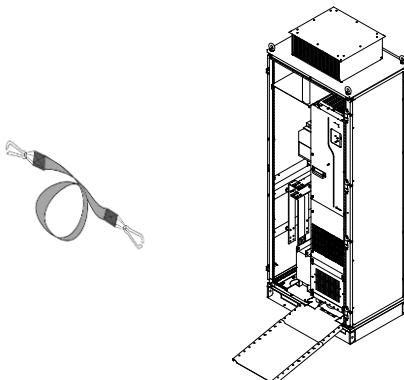

Figure 4-17 VFD already in the cabinet
4	Arrange two people to align the VFD casters with the mounting rail and push the VFD to the cabinet. (See Figure 4-15 and Figure 4-16. Use the auxiliary rope for mounting to prevent the VFD from side tipping during the push-in or push-out, as shown in Figure 4-17.)
**Note:** Since the VFD barycenter is too high, use the auxiliary rope for mounting to prevent the VFD from rollover during the push-in or push-out. See Figure 4-17.